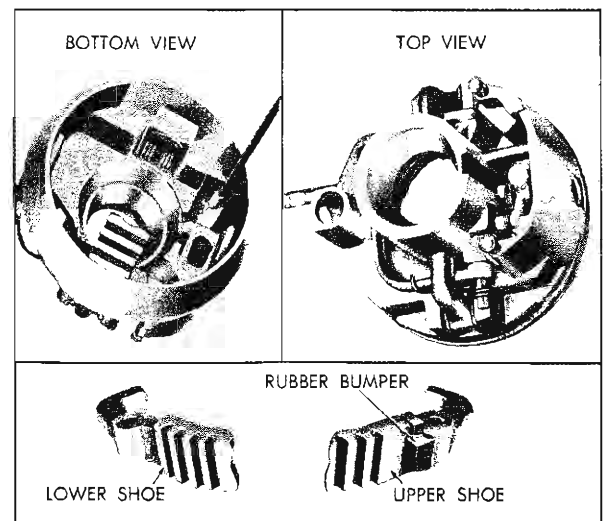

Fig. 28—Actuator Housing and Lock Shoes
3. Remove the lock shoes and springs by pushing the upper end of the lock shoe through the openings in the actuator housing (fig. 28).